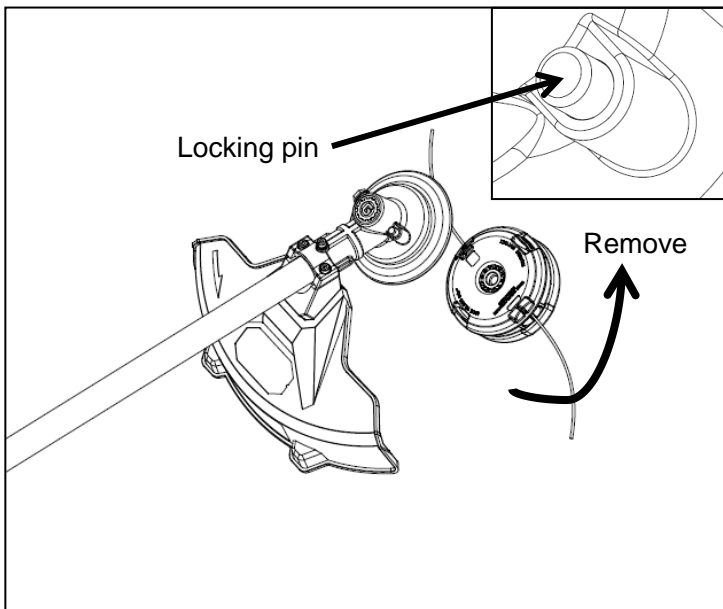

Fig. 22
2. Press the locking pin and turn the cartridge counterclockwise to remove it. (Fig. 22)
3. Press the locking pin and turn the trimmer head clockwise to assemble it. (Fig. 22)